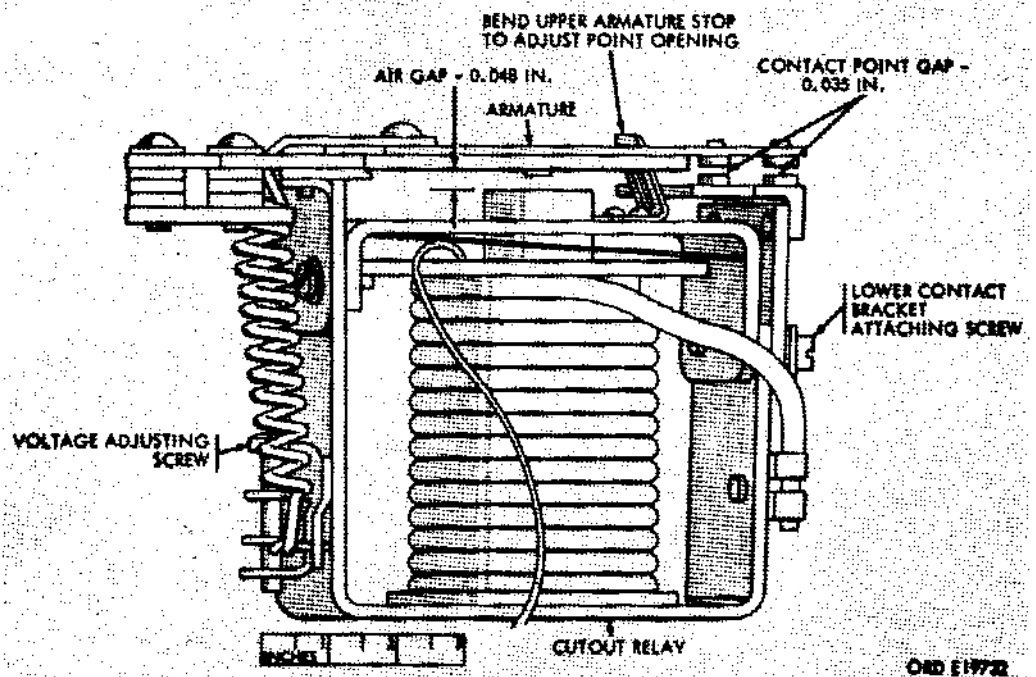

Figure 32. Adjusting cutout relay
(e) Cutout relay air gap (fig. 32). Measure the air gap as described in (4) (a). If the contact points do not close completely, realine the lower contact bracket slightly or bend the armature